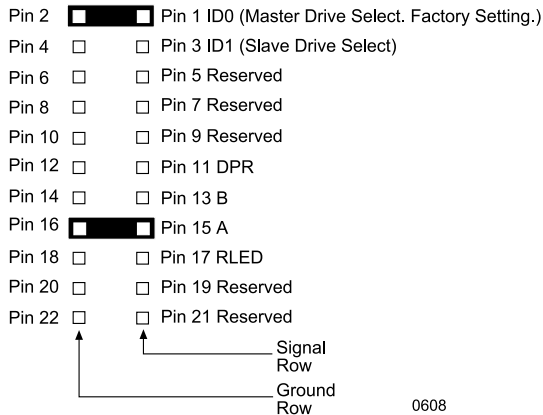

Figure 8: Master/Slave Configuration Jumper JP1
3. Select the Master/Slave configuration on the rear of the receiving frame by placing a jumper on the appropriate (JP1) pins (Figure 8). Remove the jumper if you wish to use the Unit Select switch on the receiving frame to configure the Master/Slave drive selection.